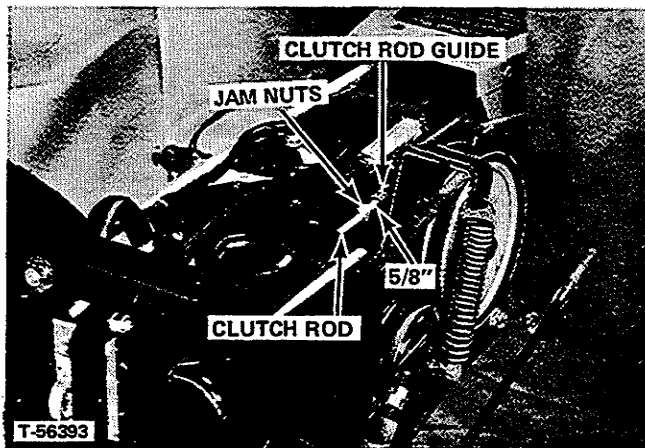

FIGURE 28
3. Adjust jam nuts on clutch rod to have 5/8 inch clearance from clutch rod guide as seen in Figure 28.